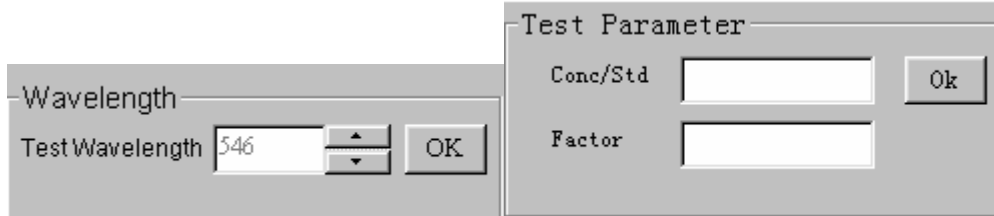
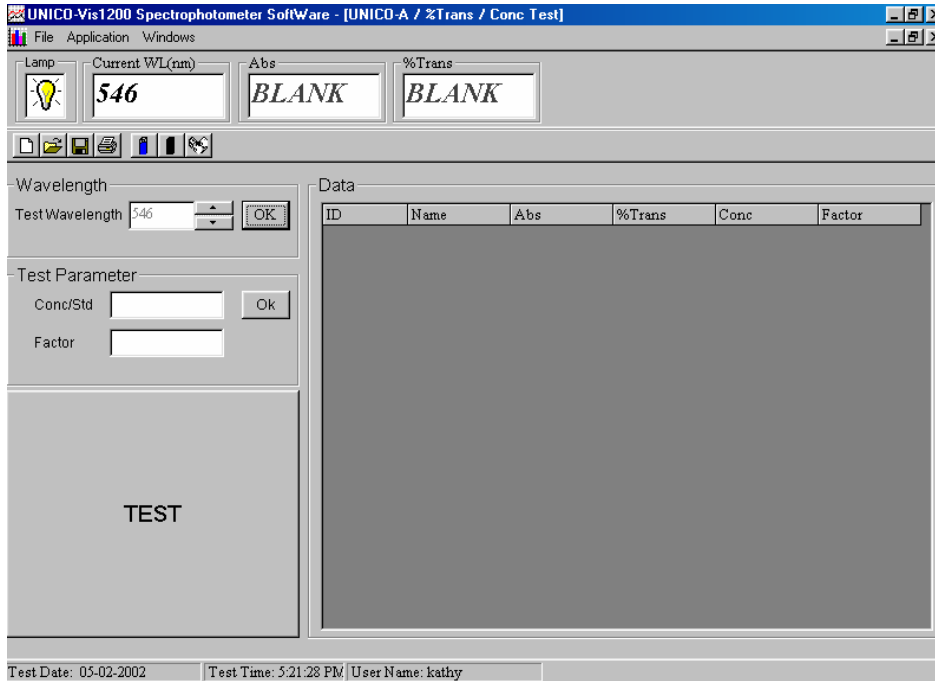

Figure-21 **Test Wavelength and Test Parameter**
Figure-22 Wavelength and Reference Setting
- **Test Wavelength** Text Field: select the desired wavelength by moving the dial on the spectrophotometer and clicking  button on the PC screen, click **OK** button (Figure-21) at the right of  button to set the wavelength (Figure-22). The wavelength will be shown both in the Text Field below **Current WL(nm)** label and Text Field at the right of the **Test Wavelength** label.
- **Test Parameter** Text Field: If standard solution is available, type the **concentration** values of the standard into the Text Field at the right of **Conc/Std** label, insert the standard into Sample Compartment and click the **OK** button. Spectrophotometer will take measurement of the standard and display factor value. The unknown sample concentrations can then be measured. If factor value is available, enter the factor value into the Text Field at the right of **Factor** label for the unknown sample concentrations calculation (Figure-21).